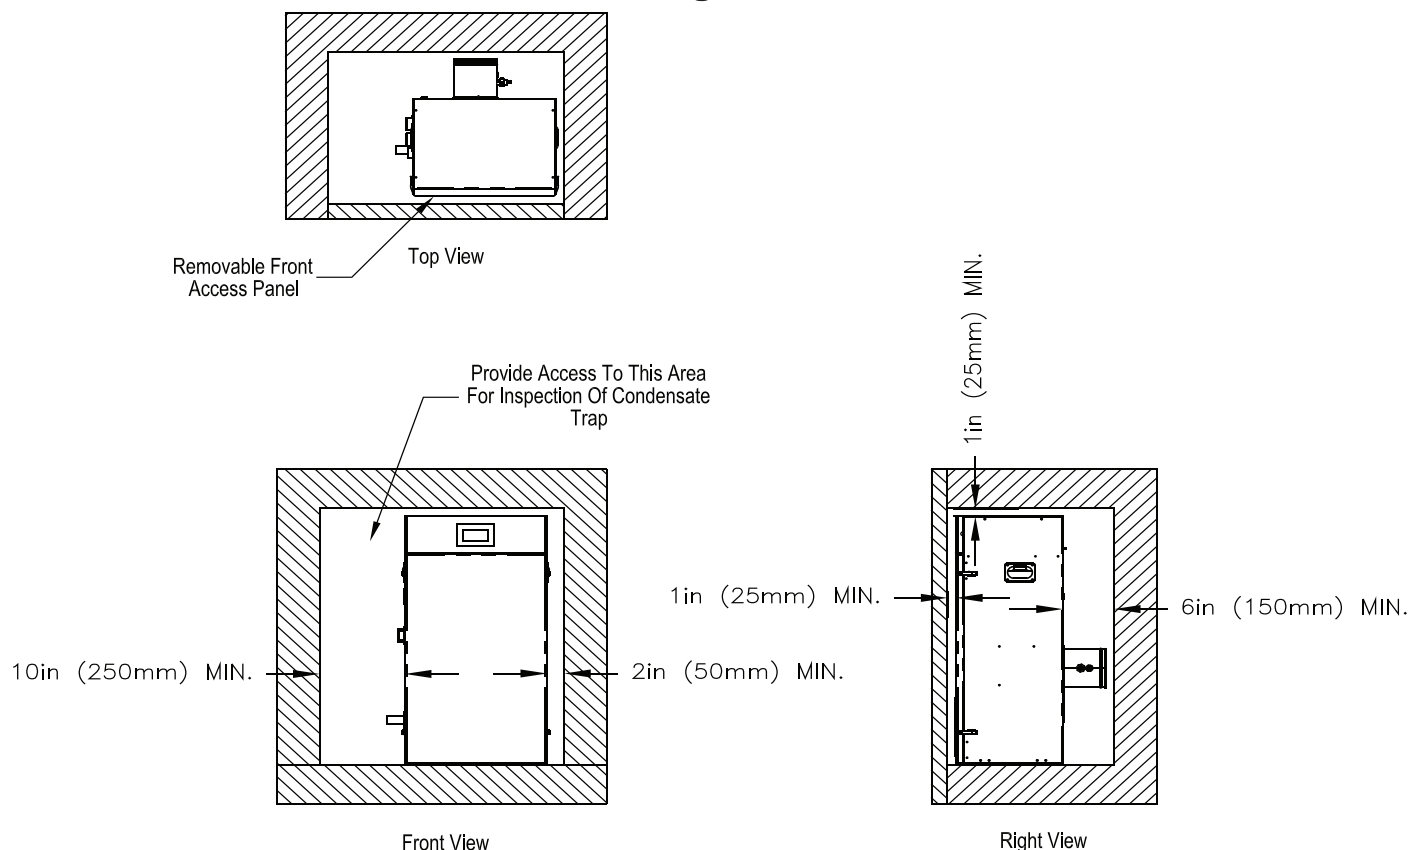

Figure 4: Clearances To Combustible and Non-combustible Material
- C. Provide clearance** between boiler jacket and combustible material in accordance with local fire ordinance. Refer to Figure 4 for minimum listed clearances from combustible material. Recommended service clearance is 24 in. (610 mm) from left side, front, top and rear of the boiler. Recommended front clearance may be reduced to the combustible material clearance providing: